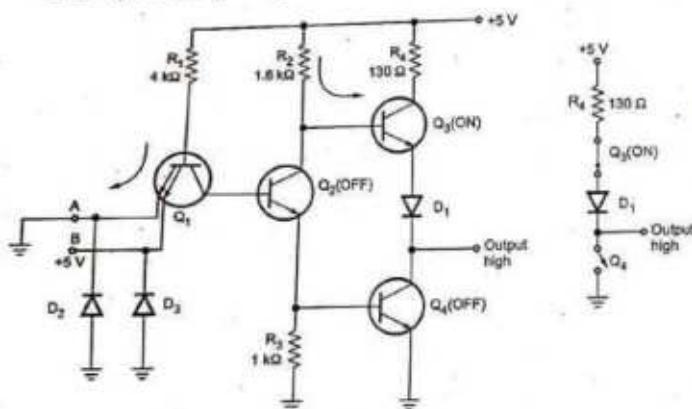

Fig. 3.3.4 Static analysis when output is HIGH
- Fig. 3.3.4 shows static analysis of one gate in a 7400 quad 2-input NAND gate, including the totem-pole output.